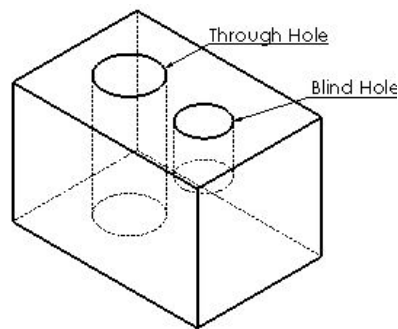

Figure Q3(e)
- e) FigureQ3(e) shows a solid model represented using B-rep. Verify whether it satisfies modified Euler's formula,